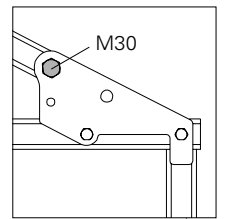

Fig. A1.13b
6. Fix Diagonal Struts (4) to the crossbeams and Vertical Struts using bolts and Nuts M30 x 140. (Fig. A1.13b or A1.14b)
9. Align scaffold tubes at right angles to the Vertical Struts. Diagonally mount scaffold tube (5.3) to the horizontal scaffold tubes using swivel couplings (22).